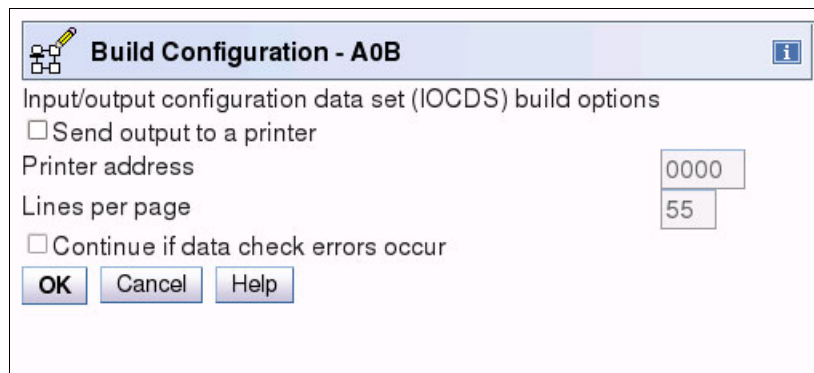

Figure 8-125 HMC - SAIOCP: build options
16. Select the build options you want and click **OK** (Figure 8-125).